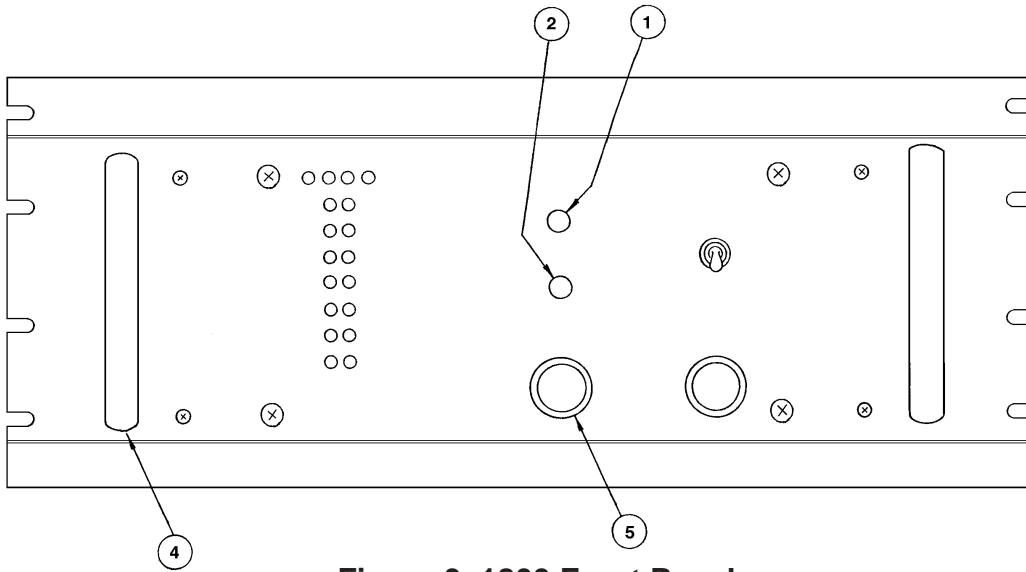

Figure 3. 1800 Front Panel
**Note:** Refer to Figures 3, and 4 for the following procedures.